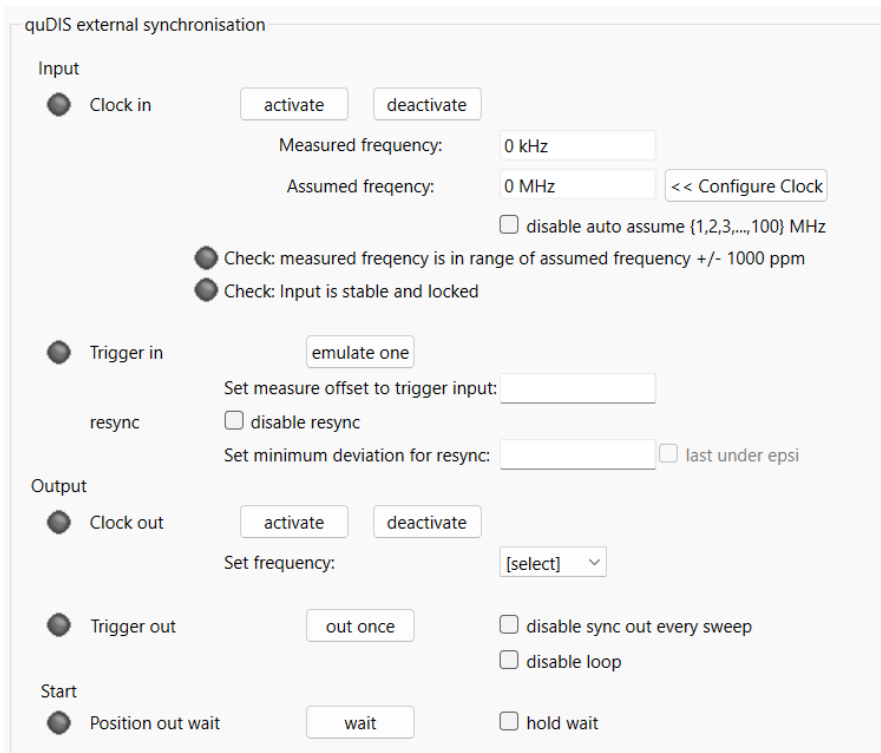

Figure 19 - External Synchronization GUI, Tab is displayed when feature is activated, the source can be found in the modules folder.
3. Start Daisy, connect and go to the sync Tab (Figure 19).
3. Start Daisy, connect and go to sync Tab (Figure 19).